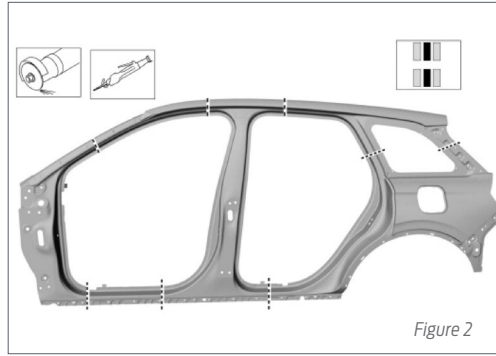

Figure 2
2. Possible sectioning points (Figure 2).